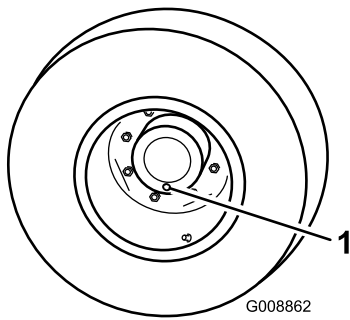

Figure 88
1. With the machine on a level surface, position a wheel so a check plug is at the lowest (6 o'clock) position (Figure 88).